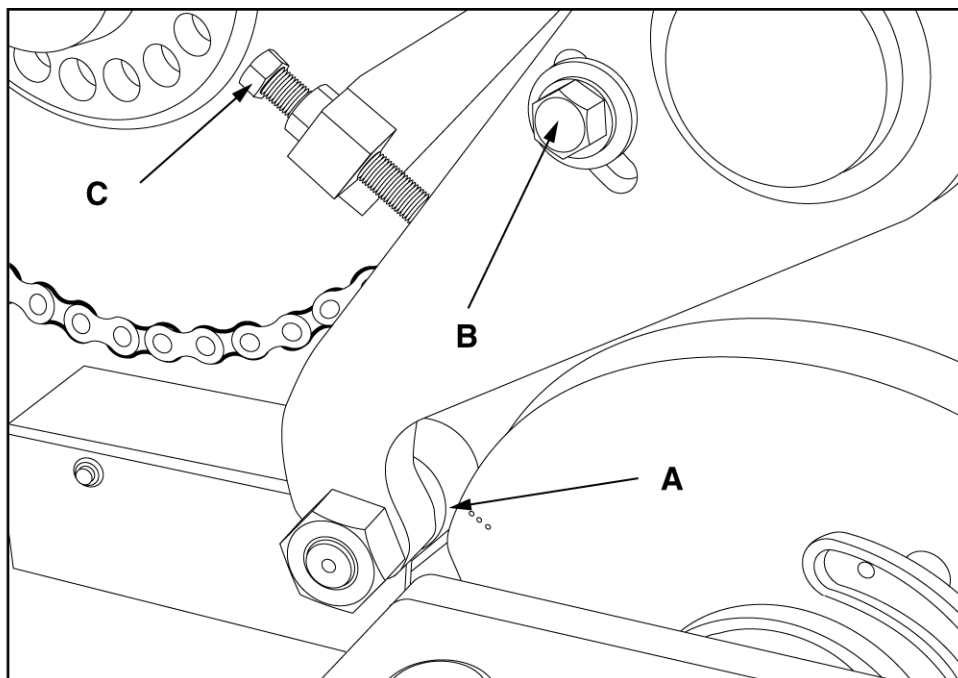

Figure 6.22 BLOCK LOWERING ARM ADJUSTMENT
- 6.2.13 Rotate block delivery drive CCW until punch marks on high part of cam align with the center of the roller (A) (see figure 6.22).